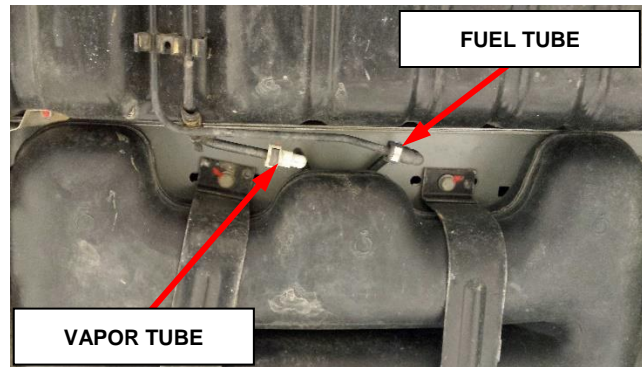

Figure 4 – Fuel and Vapor Tubes
36. Disconnect quick connect fittings for fuel tube and vapor tube (Figure 4).